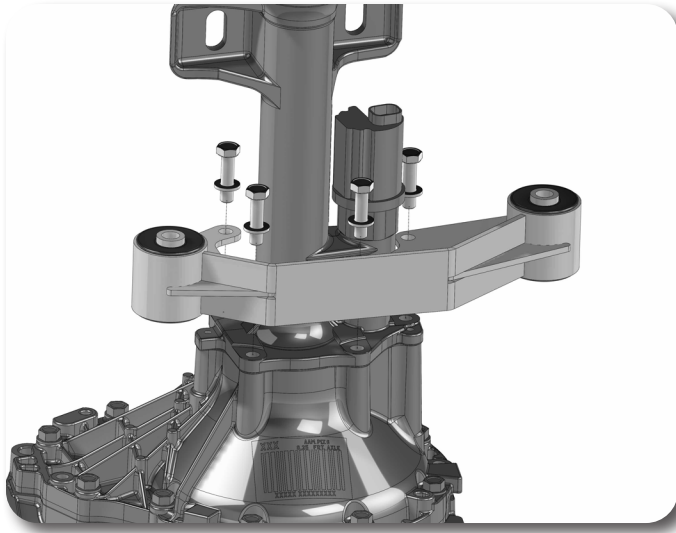

Figure 24
36. Locate the center differential bracket and 10mm x 40mm bolts and washers. Remove the 4 housing bolts and install the differential bracket with the provided hardware using some loctite. Torque bolts to 33 ft-lbs. Take care not to break the gasket seal. Figure 24.